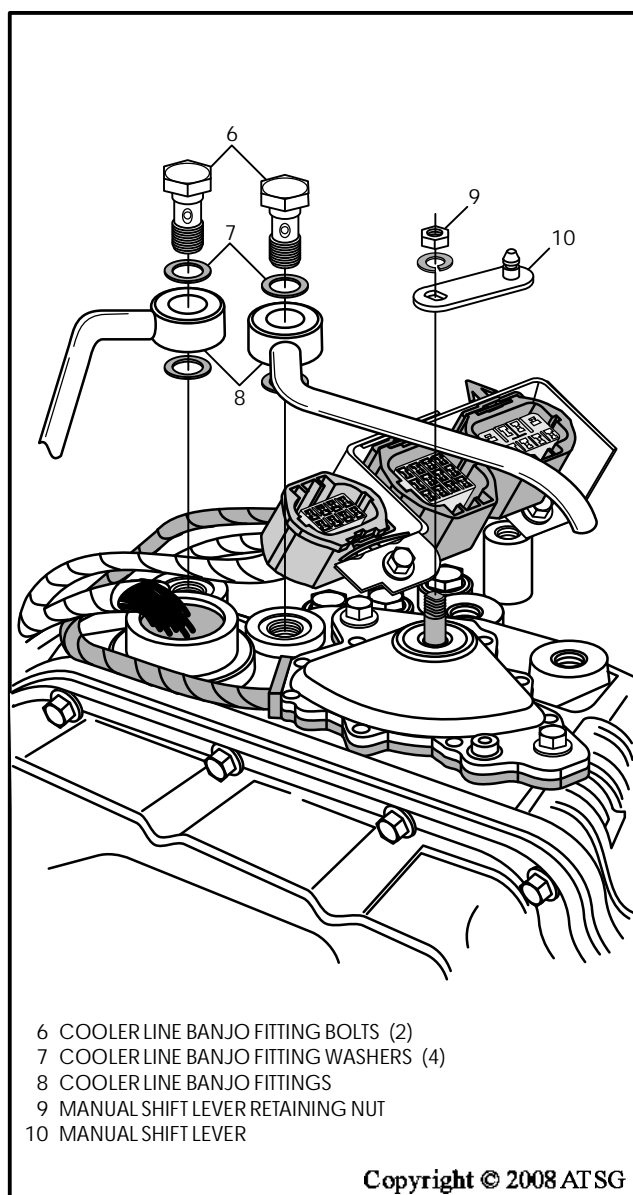

Figure 240
6. Install the transaxle external manual shift lever, as shown in Figure 240, install washer and nut and torque nut to 38 N·m (28 ft.lb.).
7. Install both cooler line banjo fittings, with new washers, as shown in Figure 240, and torque cooler line banjo bolts to 34 N·m (25 ft.lb.).